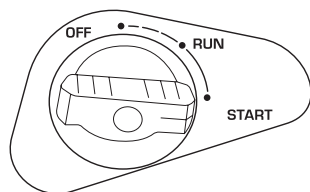

Fig. 8
4. Turn the air choke control knob to the "OFF" position (Fig. 8), for dual fuel models - move the fuel switch to the OFF position/ close LPG supply valve.